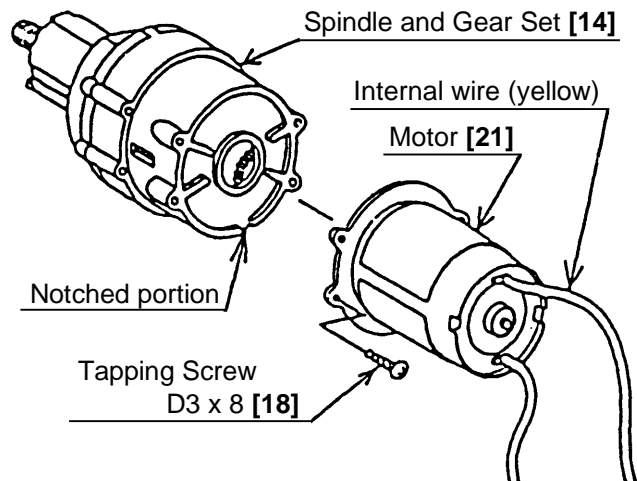

Fig. 9
- (2) Connecting the Spindle and Gear Set [14] and the electrical components assembled as described in Para. (1)
When connecting the Spindle and Gear Set [14] and the electric components assembled as described in Para. (1) above, ensure that the colored lead wires soldered to the Motor [21] are correctly positioned with relation to the notched portion of the Spindle and Gear Set [14] before fastening the two sections with the four D3 x 8 Tapping Screws [18]. (See Fig. 9)